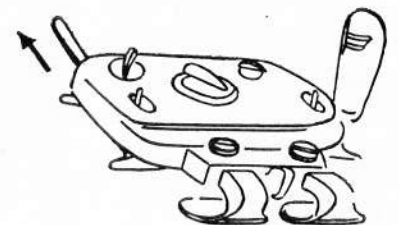

Fig 12
12. Now, pull out the row counter tripper, Fig. 12, and you are ready to knit.
3. Push the row counter tripper away from you as shown in Fig. 12.